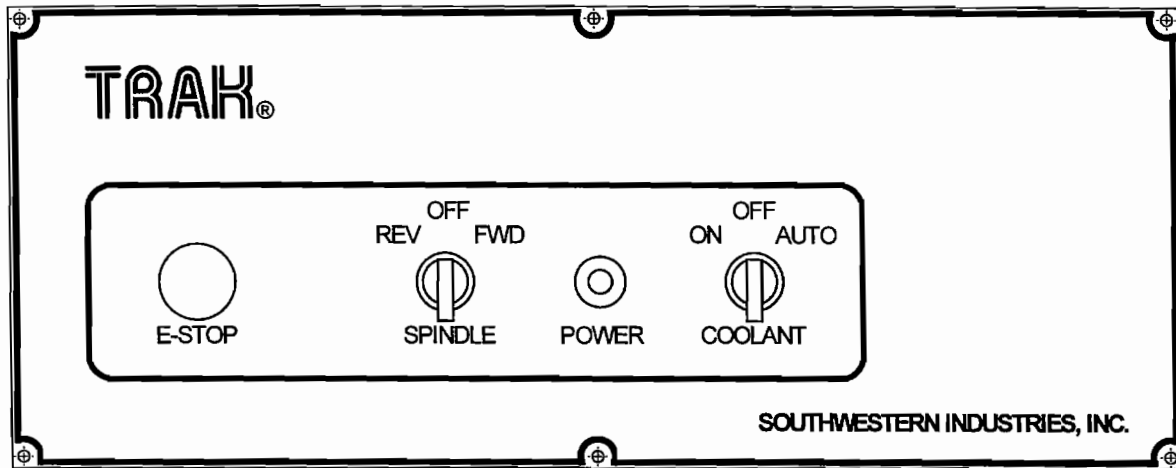

Figure 3
3.5 TRL Switch Panel (*Figure 3*)
4.3 Spindle Forward/Off/Reverse (Figure 3)